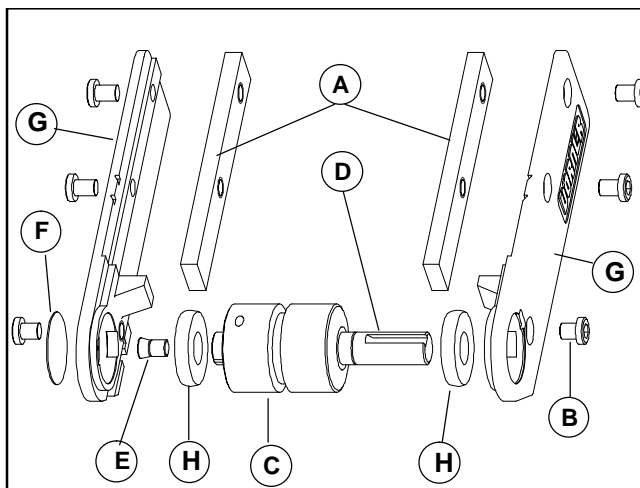
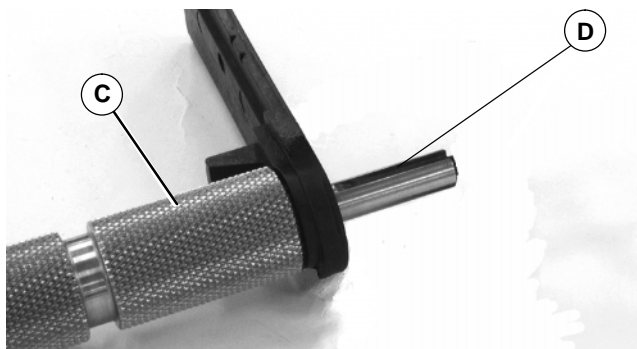

Figure 3
Figure 6
1. Typical components (Figure 3)
3. Determine required orientation for output shaft (D of Figure 3).
4. Insert slide bars (A of Figure 3) into 2100 frame.
7. Insert output shaft (D of Figure 6) of drive pulley (C of Figure 3) into bearing.
11. Loosely thread taper screw (E of Figure 3) into drive pulley (C).